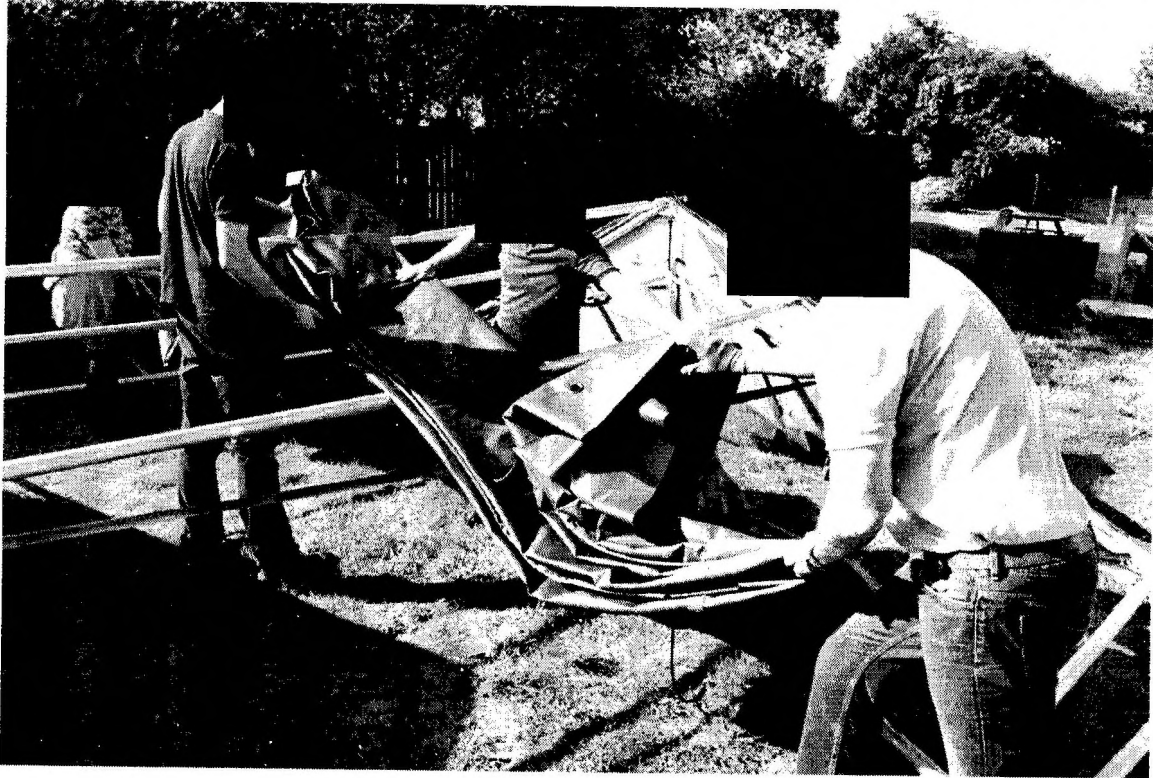

Figure 21: Pull PVC cover into place
34. The roof and wall cover should be placed over the roof framework at one end. It is easier to fold the cover to position for connection with the end wall, this eases access to the keder rail or the dutch lacing as shown in Fig 21.